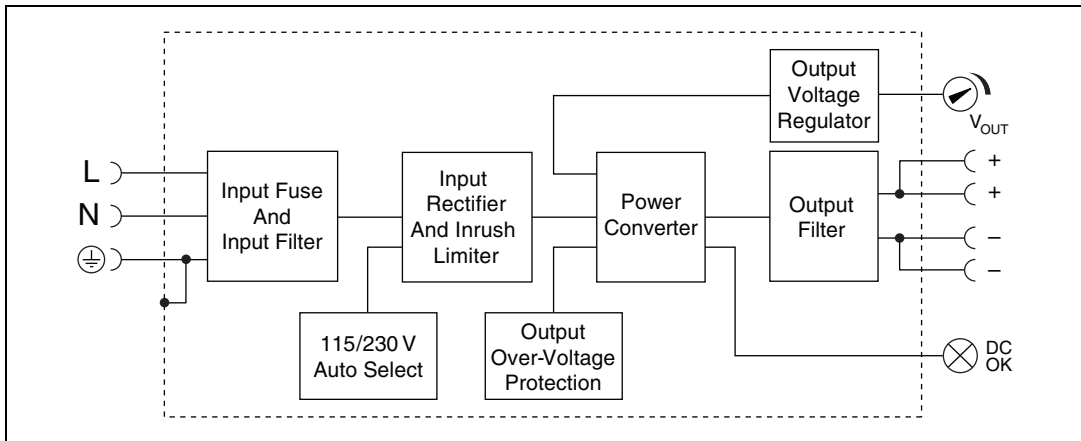
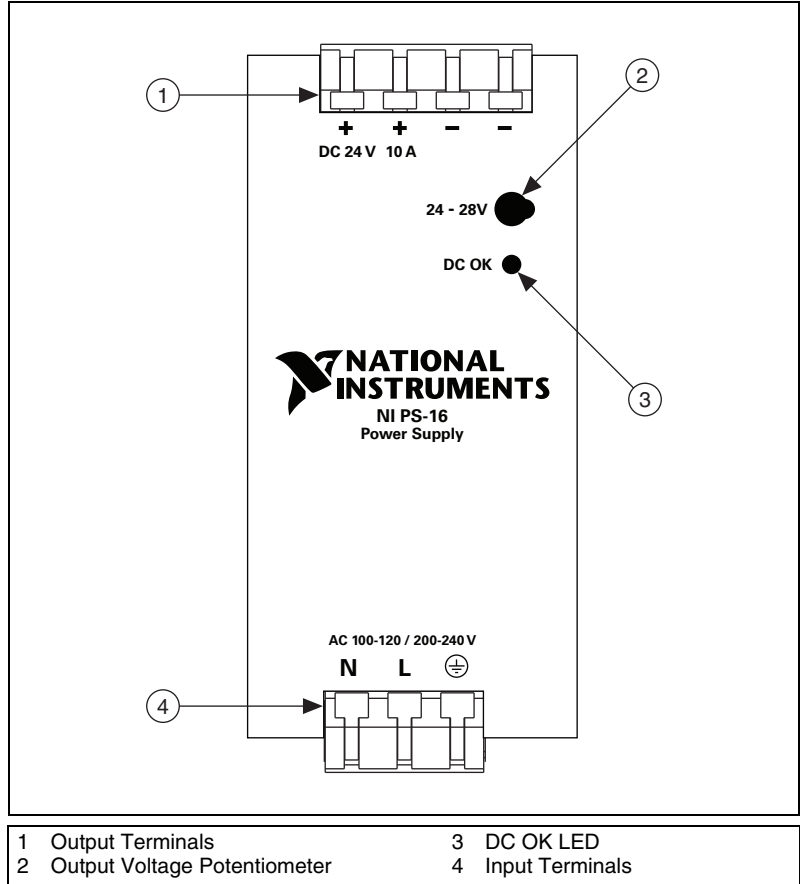

Figure 1-1. Functional Diagram for the NI PS-15 Power Supply
Figure 1-2. Front View of the NI PS-15 Power Supply
Figures 1-1 and 1-2 show the functional description and front panel features of the NI PS-15 power supply.
Figure 1-1 provides the functional diagram for the NI PS-15.
Figure 1-2 provides the front panel features of the NI PS-15.
The NI PS-15 has a total of four output terminals, providing two positive (+) output terminals and two negative (-) output terminals. Both positive terminals are wired together internally, and both negative terminals are wired together internally, as shown in Figure 1-1. The output terminals provide 24 V_{DC} with 5 A of current.
Output voltage from the NI PS-15 is set by the output voltage potentiometer, shown in Figure 1-2. The factory setting output voltage is $24.1\text{ V} \pm 0.2\%$ (at full load when the power supply is cold), and the potentiometer allows the output voltage to be adjusted from 24–28 V on any unit. The output voltage may be adjusted above 28 V by the potentiometer, but voltages beyond 28 V are *not* guaranteed.
This green LED indicates the status of available DC power through the output terminals. If the LED is lit, DC output of greater than 21 V is available for use through the output terminals. If the LED is not lit, DC is not currently available. The DC OK LED is wired internally to the power conversion circuitry prior to the output filtering stage, as shown in Figure 1-1.
The NI PS-15 power supply derives power through the input terminals on the front panel, shown in Figure 1-2. There are three terminals corresponding to the Neutral input, the Line (or hot) input, and the Protective Earth (PE) input. The NI PS-15 rectifies both single-phase and two-phase AC input. The Neutral input terminal provides a MAINS return path for the input circuitry. The Line input is the primary power input for the supply. The PE input corresponds to an earth ground. As shown in Figure 1-1, the power supply case itself is grounded to the PE input.